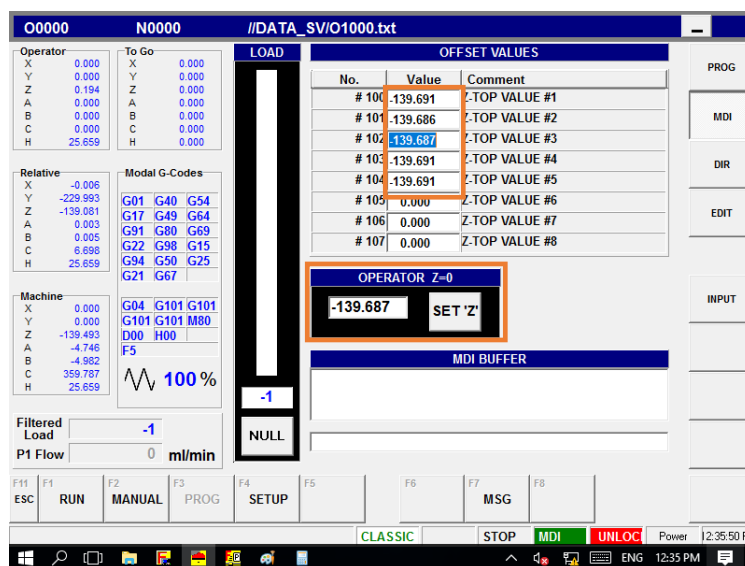

Figure 44 - ZTOP select screen
10. Select the value which will then appear in the “OPERATOR Z=0” window and press the “SET” button to update the “G54 Z OFFSET” value. See (Figure 44 - ZTOP select screen).